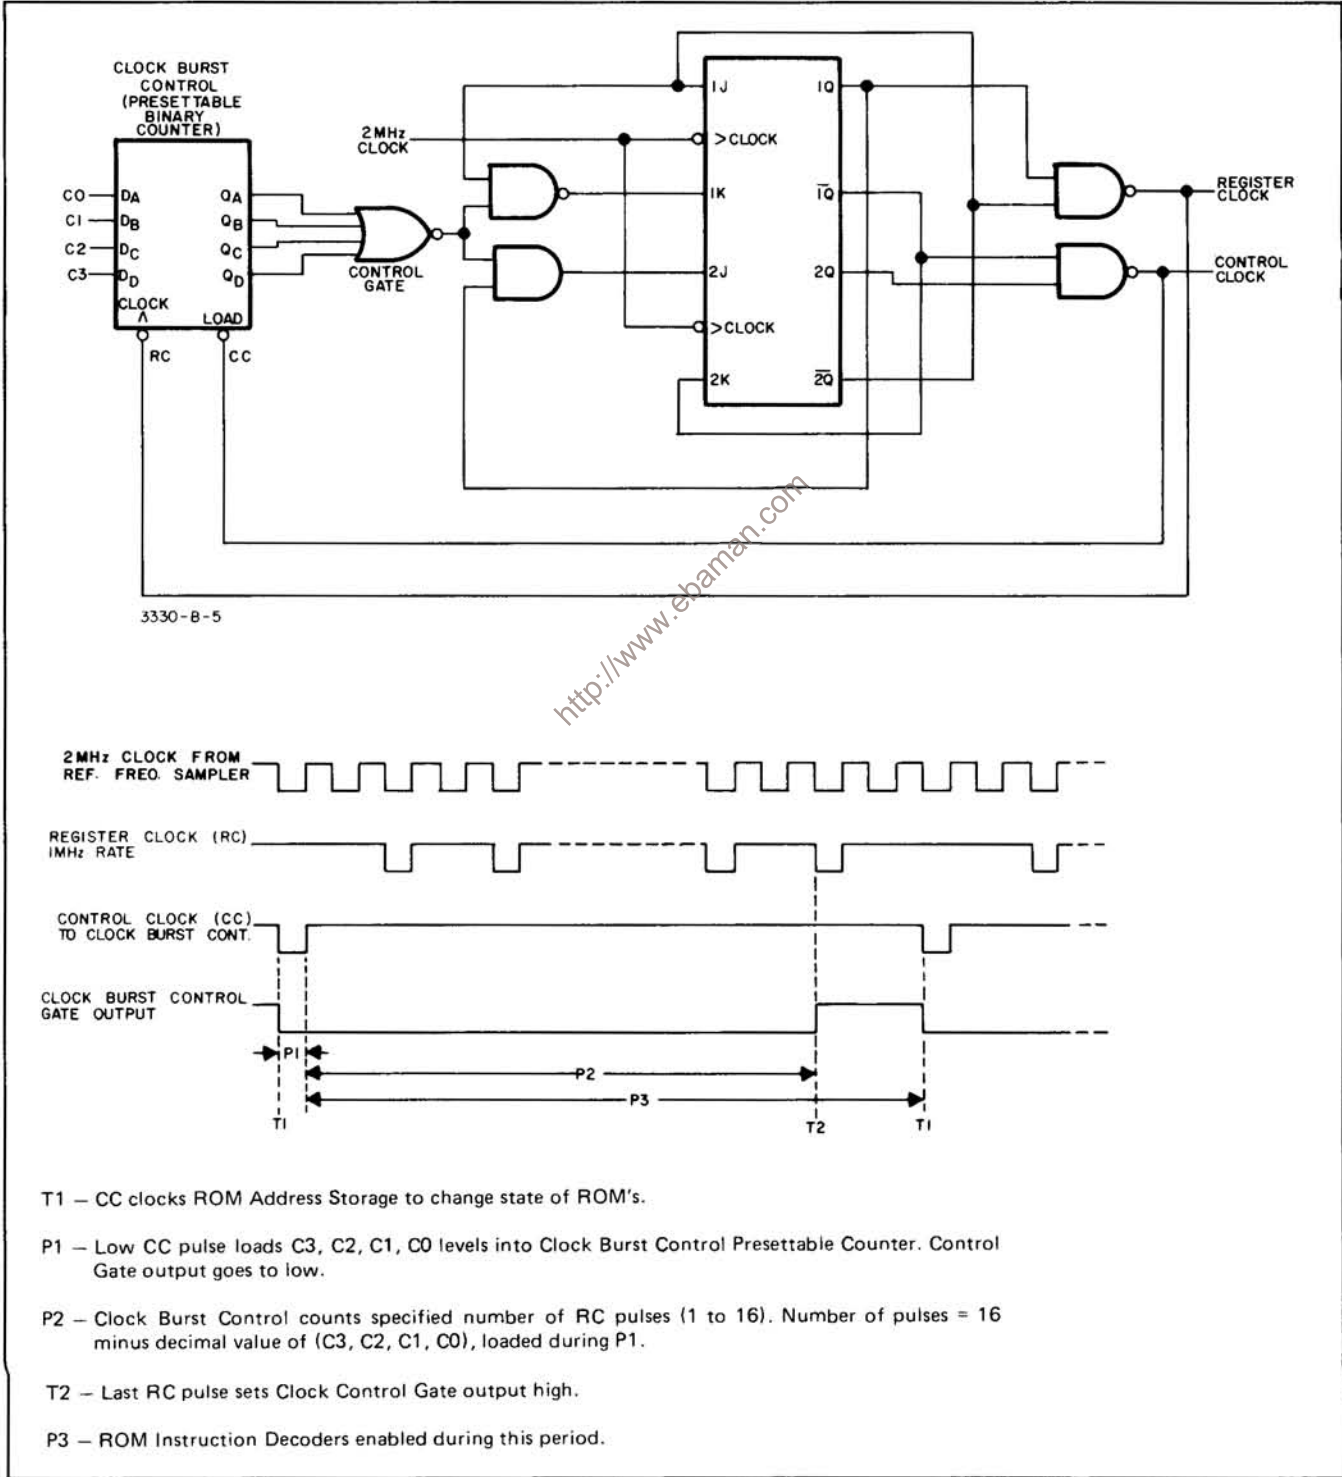

Figure 4-15. Clock Generator.
4-44. Two clock signals are generated. The Control Clock (CC) is used to clock the ROM Address Storage and ROM instruction decoding, and the Register Clock (RC) times the data flow in the Control Processing Unit registers. Figure 4-15 shows the clock outputs and timing.